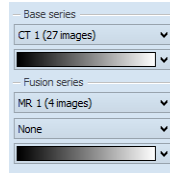

Figure 305 – Series and color map selection
1. Click the **Base series** combo box to select the primary series (see Figure 305).